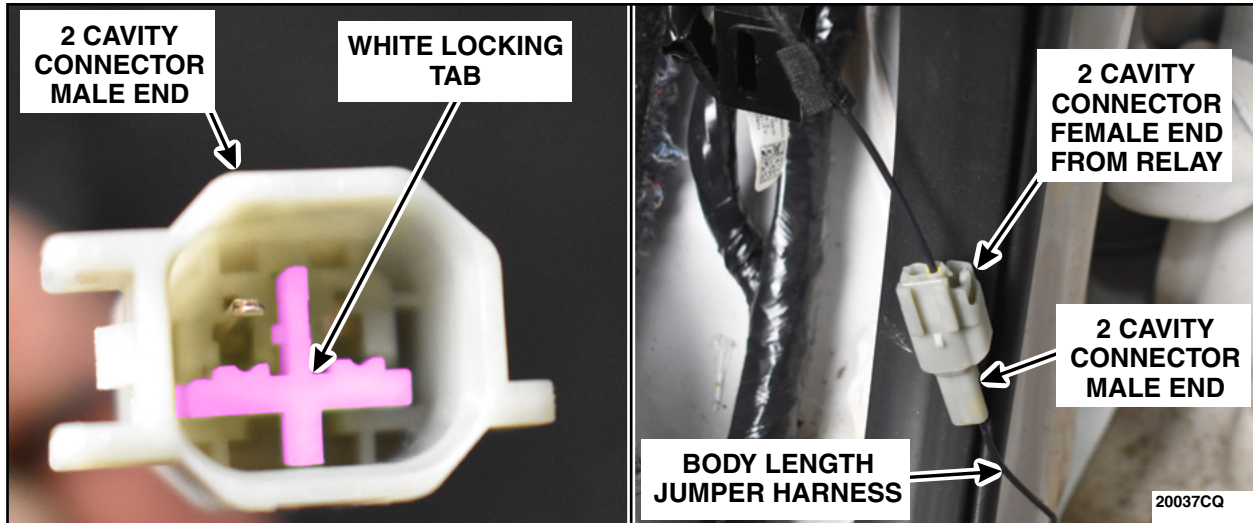

FIGURE 99
89. Engage the white locking tab. Connect the 2 cavity connector male end to the 2 cavity connector female end from the relay. See Figure 99.